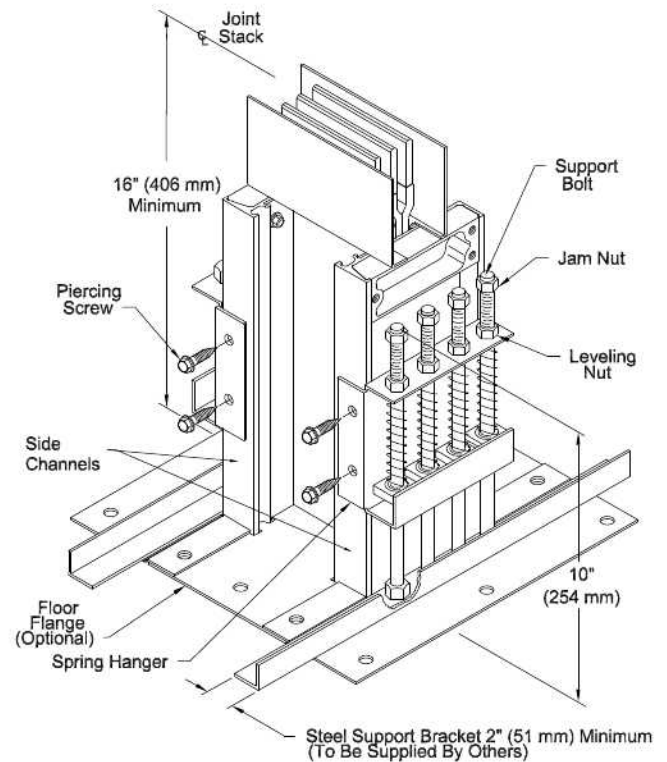

Figure 9. Spring Hanger
After installing the busway section through the floor, perform the following procedure (Figure 9).
8.4 After completing the entire busway and spring hanger installation, start at the highest spring hanger in the busway run (usually on the top floor of the building) and loosen and move all jam (upper) nuts to the top of the support bolts using a 3/4 inch (19 mm) wrench (Figure 9).